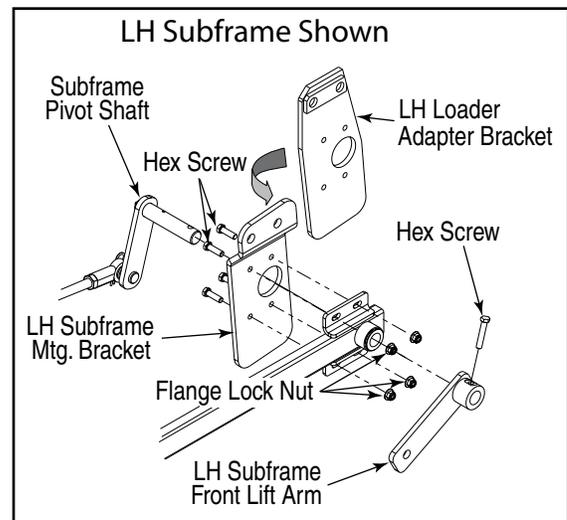

Figure 3
- Remove the hex screw fastening the LH front subframe link on the subframe pivot shaft, and slide the subframe link off of the shaft. Refer to Figure 3.
- Withdraw the pivot shaft from the bearings in the subframe rail. See Figure 3.
- Remove the four hex flange lock nuts and screws securing the LH subframe mounting bracket to the subframe rail to remove the mounting bracket. See Figure 3.
- Position the LH loader adapter bracket (12) to align its four holes with the four holes in the plate on the subframe rail. Refer to Figure 3. Insert the four hex screws and thread the hex flange lock nuts onto the screws. Tighten the flange lock nuts until almost snug. Do not fully tighten the fasteners.
- Insert the subframe pivot shaft through the subframe rail and slide the LH front subframe link onto the end of the shaft. Align the holes in the subframe link with the hole in the pivot shaft and insert the hex screw removed earlier. Fully tighten the hex screw. Refer to Figure 3.
- Repeat the above procedure to install the RH loader adapter bracket (11) onto the RH subframe assembly (16).